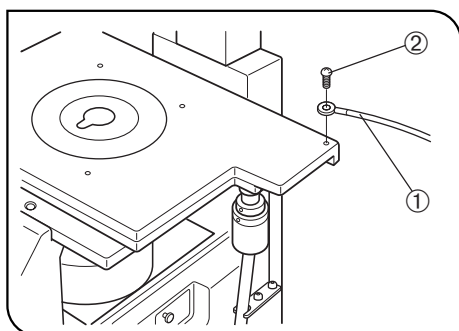

Fig. 18
3 Connecting the Grounding Wire (Fig. 18)
Prepare a grounding wire ① and one M4 screw ② and attach the grounding wire as shown in Fig. 18.